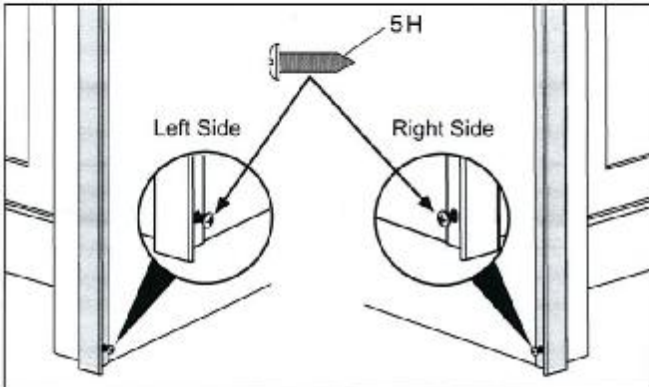

Figure 10.
- c. Run screw in all the way and then back out. Remove side trim for later install. (See Figure 10).